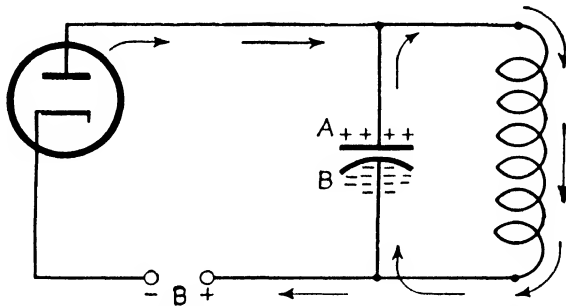

FIG. 428. The surge "breaks" through the tank coil. Electrons now rush through the coil and begin to fill side *B* of the tuning condenser.
The surge breaks through the tank coil. When the pull of the *B* supply overcomes the back pressure of the tank coil, the first electron surge flows through the tank coil. The tank-coil pull empties side *A* of electrons and loads them on side *B* (see Fig. 428). Side *A* is now positive and side *B* negative.
1. When side *B* of the tuning condenser in Fig. 428 is negative, what is the charge on the plate? What charge does the plate produce on the grid?
4. Show the current flow in the grid circuit when side *B* of the condenser in the plate circuit is negative, as in Fig. 428.